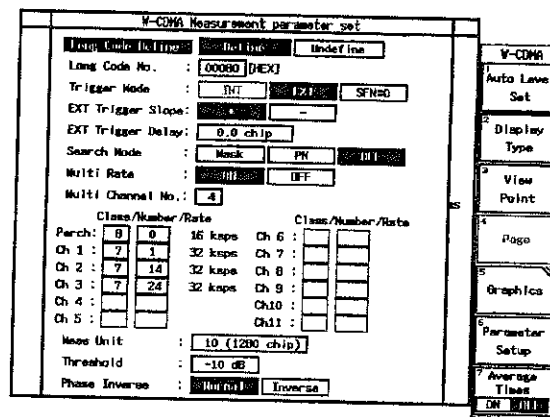

Figure 3-23 Setting of Parameter for W-CDMA Measurement
- On the R3267/3273, set the parameter referring Figure 3-23.